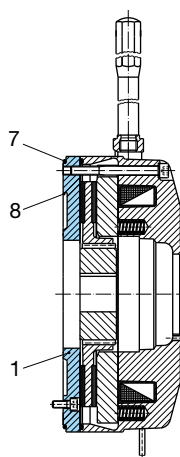

Fig. 3
- Customer-specific flange plate, Fig. 3